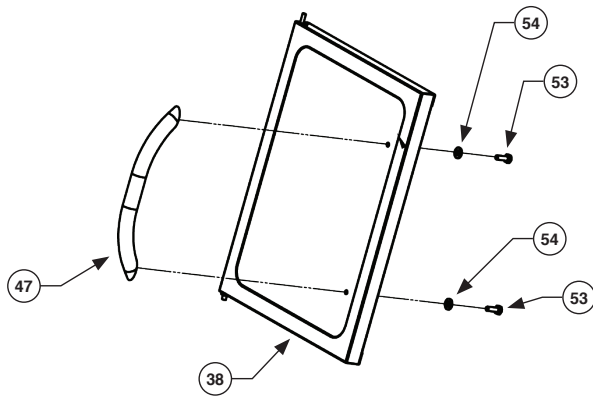

FIG 9
Align the holes in the Left Door (38) with the holes in the Handle (47). Place a (Ø18\*Ø6.5\*2.0mm) Washer (54) on each ¼-20\* ½ Hexagon Bolt (53) and tighten with Wrench. Repeat the former step to assemble the Right Door (46). As shown in FIG 9.